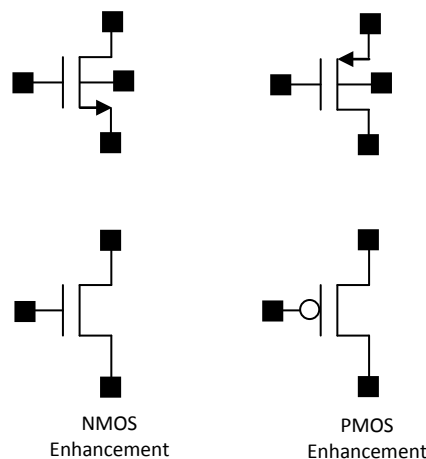

Figure 3-1 MOS Transistor Symbols (4 Terminals & 3 Terminals)
Figure 3-1 shows various symbols used for the different types of MOS transistors. Those on the top row are symbols with 4 terminals. The terminal in the center is the Bulk (B) terminal. As the Bulk terminal is usually connected to the source terminal, simplified symbols as shown in the second row are the more commonly used in circuit representation.